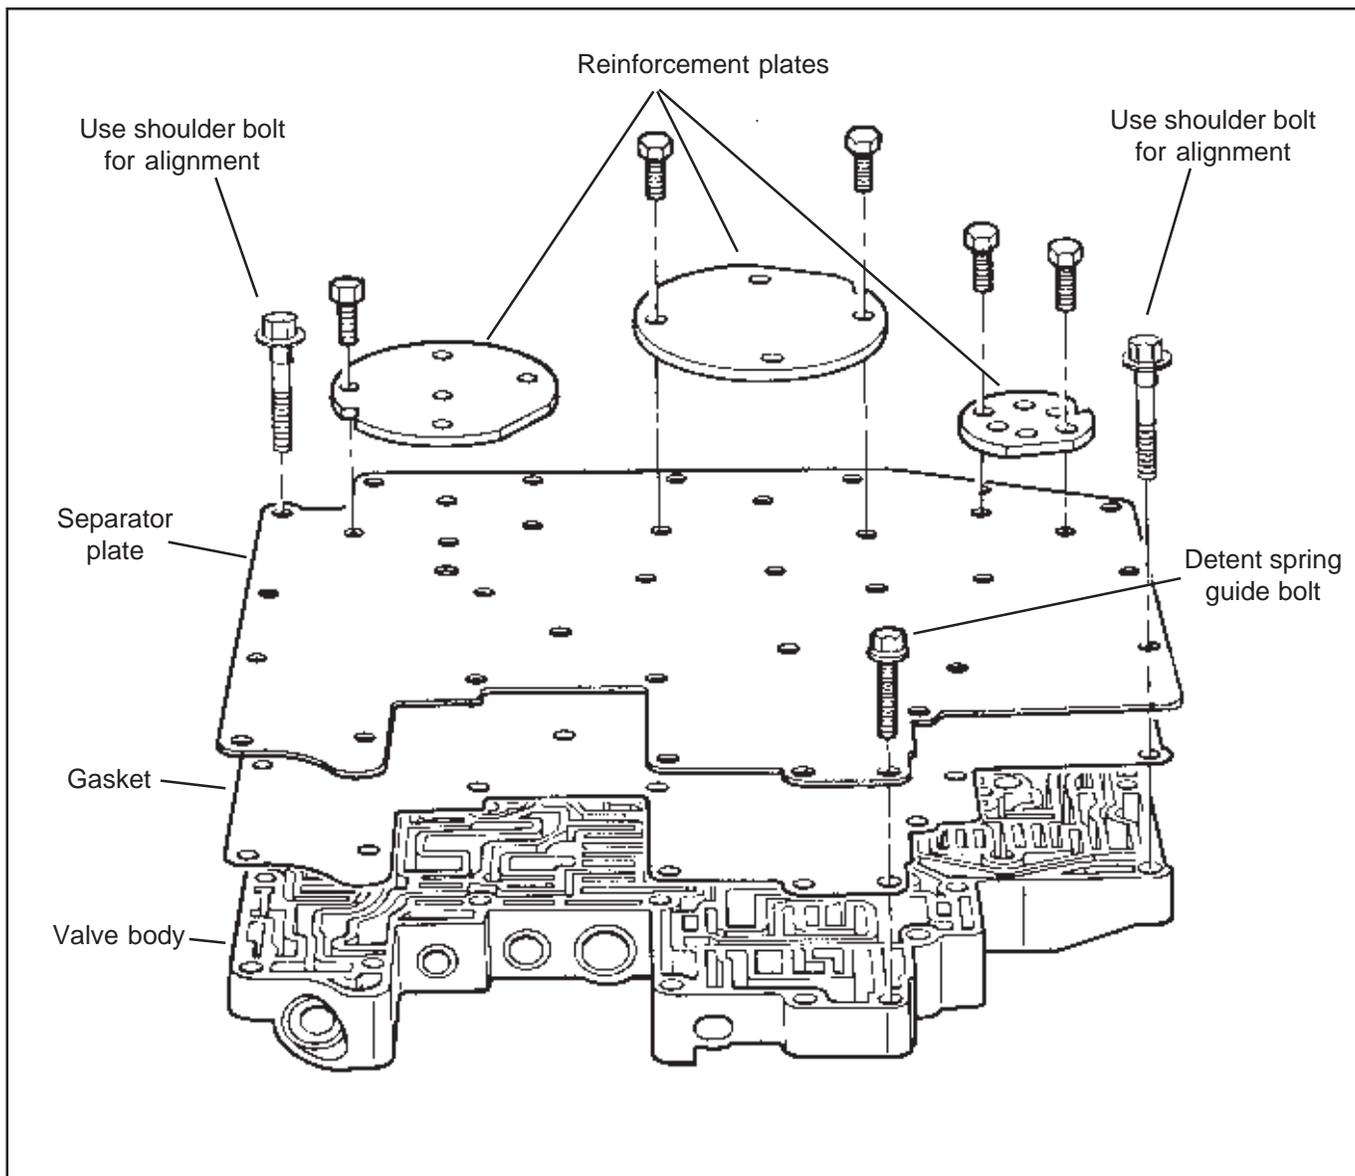
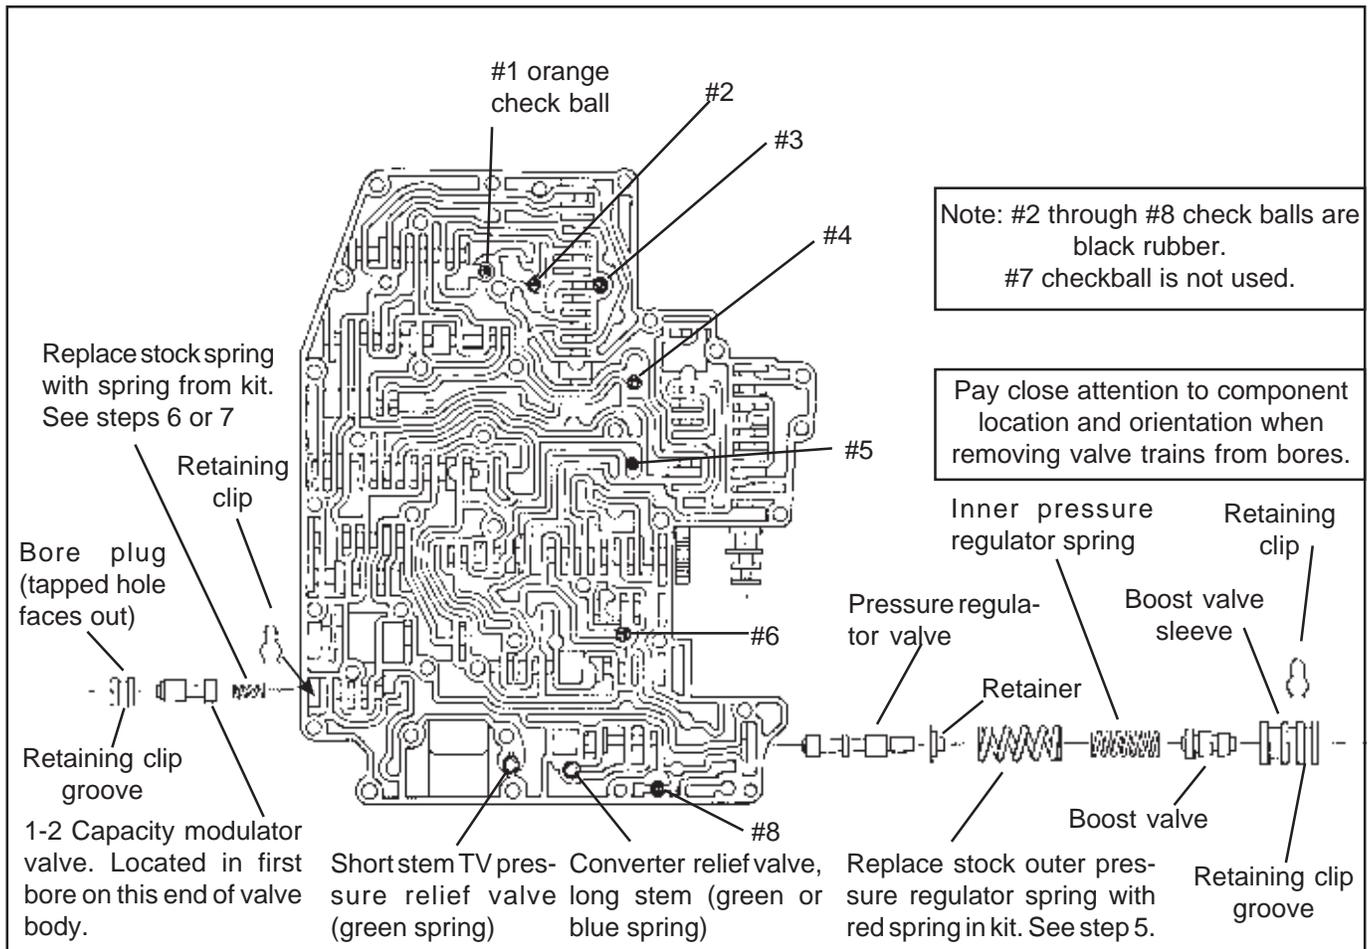

Figure 3
Figure 4
**STEP 4.** Remove 12 bolts holding separator plate to valve body (See Fig 3). Remove (3) reinforcement plates and separator plate, (1) large (orange) and (6) small (black) check balls, and (2) relief valves with springs (See Fig. 4). **NOTE:** Early 1980 valve bodies may have (7) black check balls. Carefully remove any remaining gasket material from reinforcement plates and valve body surfaces. Make sure none of the gasket debris remains in the valve body channels to contami-
**STEP 5. Heavy Duty and Street; Pressure regulator.** Remove the retaining clip at the end of the pressure regulator bore (See Fig. 4) Use a
**STEP 6. Heavy Duty Only; 1-2 Capacity Modulator.** Remove the retaining clip at the end of the 1-2 Capacity Modulator bore (See Fig. 4). Remove the bore plug, 1-2 Capacity Modulator valve and spring from bore. On later model valve bodies use the M4x40 (4mm metric screw supplied in kit) in tapped hole to assist removing bore plug. Early valve bodies do not have a hole in the bore plug so you will have to pry the plug out with a small screw driver. Replace the stock spring with the **YELLOW** spring
**STEP 7. Street Only; 1-2 Capacity Modulator.** Remove the retaining clip at the end of the 1-2 Capacity Modulator bore (See Fig. 4). Remove the bore plug, 1-2 Capacity Modulator valve and spring from bore. On later model valve bodies screw the M4x10 (4mm metric screw supplied in kit) in tapped hole to assist removing bore plug. Early valve bodies do not have a hole in the bore plug so you will have to pry the plug out with a small flat screw driver. Replace the stock spring with the **GREEN** spring supplied in kit. Reassemble spring, valve and bore plug (tapped hole facing out) and install retaining clip.
**STEP 9. Check ball placement (See Fig. 4)** Place check balls in the valve body in the positions shown. Use a dab of grease or petroleum jelly to
**STEP 10.** Reinstall original converter and TV pressure relief springs and valves (See Fig. 4). Pay close attention to the spring color and relief valve stem length. The long stem converter relief valve can have either a green or blue spring.
**STEP 12.** Position separator plate gasket then separator plate on valve body. Align gasket and separator plate holes with those in valve body. Insert (2) long (1.56") valve body **shoulder** bolts through separator plate and valve body as illustrated in **Figure 3**. The **shoulder** bolts are required to maintain gasket and plate alignment during assembly.
The shoulder bolts must be installed in the holes indicated for proper alignment. Install (3) reinforcing plates with (11) short bolts tightening the bolts finger tight. Install (1) M6x30mm (1.16") detent spring guide bolt. (See Fig. 3.)